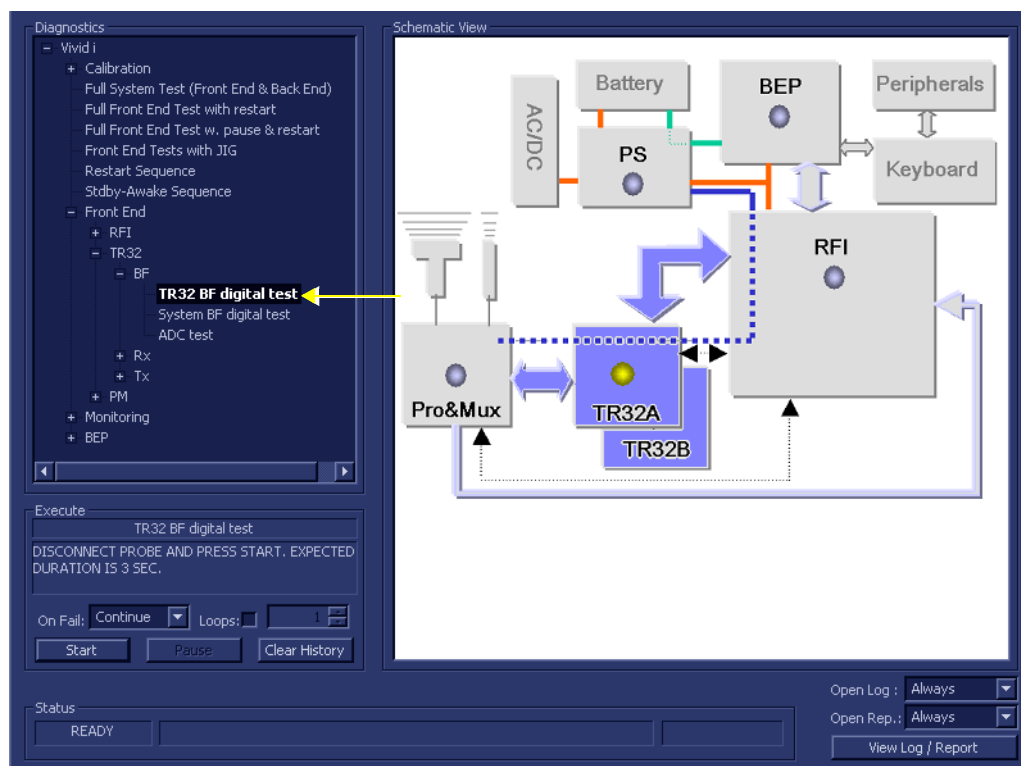

Figure 7-21 TR32 BF Digital Test
- In the *Diagnostic Test* window, trackball to **TR32 BF Digital Test** in the list of *TR32, BF* tests available for selection from the Diagnostic Test Tree (see Figure 7-21 below) and press **Set**. The TR32 BF Digital Test name is displayed under *Execute*; the relevant system components to be tested are highlighted light blue in the Schematic View (TR32A and TR32B), as shown below: